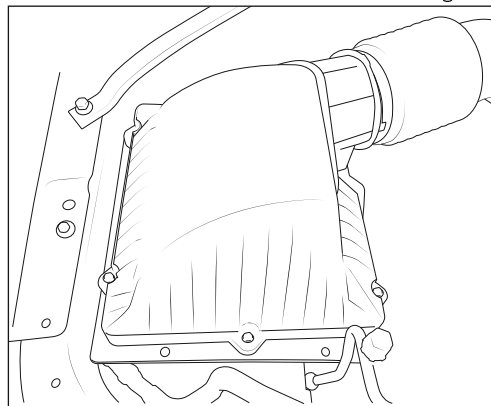

Figure 20
10. With the new lower intake system installed, the filter and factory upper airbox lid can be reinstalled using the supplier 1.25" slotted hex head screws (fig.20).